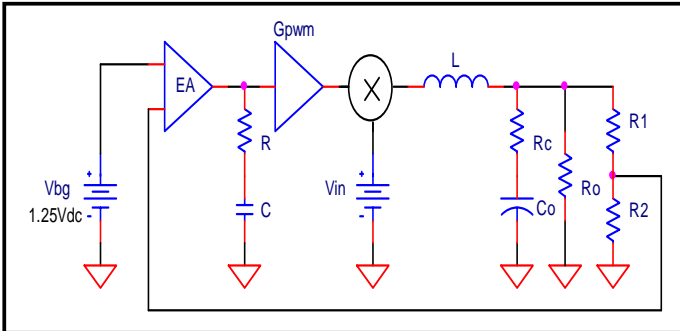

Fig. 1. SC2516 small signal model.
The control model of SC2516 VDDQ and GMCH section can be depicted in Fig. 1. This model can also be used in Spice kind of simulator to generate loop gain Bode plots. The bandgap reference is 1.25 V and trimmed to +/-1% accuracy. The desired output voltage can be achieved by setting the resistive divider network, R1 and R2.
(6) The final step is to generate the Bode plot, either by using the simulation model in Fig. 1 or using the equations provided here with Mathcad. The phase margin can then be checked using the Bode plot. Usually, this design procedure ensures a healthy phase margin.
(7) An additional capacitor should be reserved at the compensation pin to ground to have another high frequency pole.